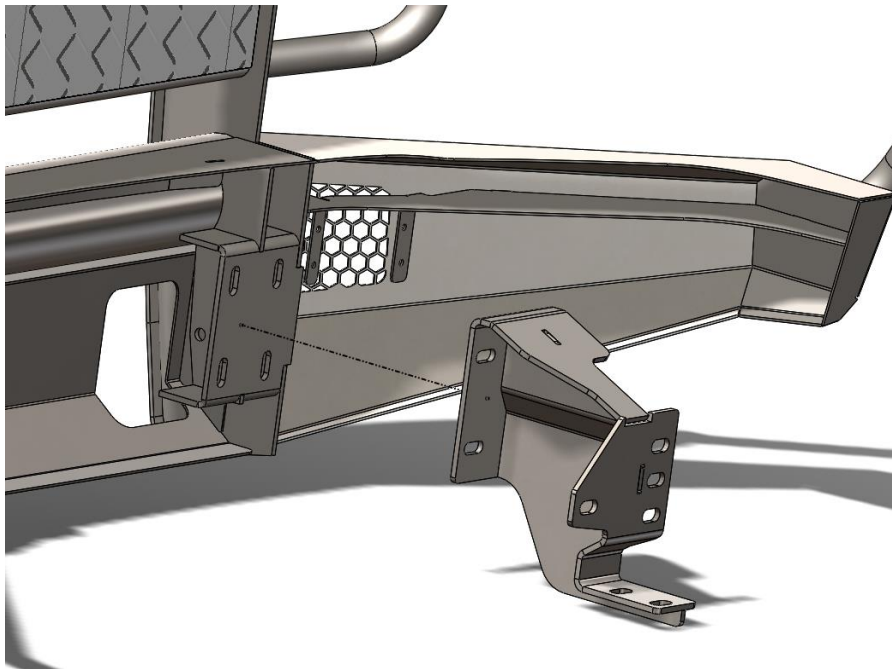

Figure 13
1. Insert the provided bolts from the front of the mount tower through the mount face. Install the supplied 1/2" nuts and washers but do not tighten fully (Ref. Figure 13).